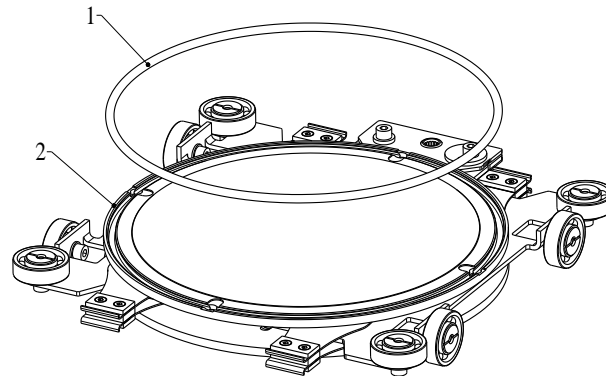

Figure 7-5
22. Remove gate seal (1) from groove; see «Figure 7-5», use O-ring removal tool.
2. Remove gate seal (1) from groove; see «Figure 7-5», use O-ring removal tool.